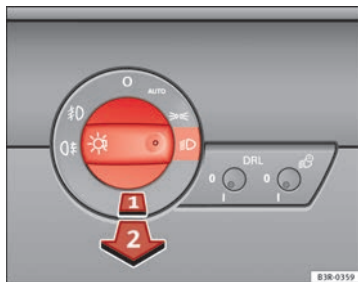

Fig. 84 Detailed view of the dash panel: Light switch
- Turn the light switch  $\Rightarrow$  fig. 84 to position  $\Rightarrow$ .
- Do  ⇒ fig. 84 **not** turn the light switch to the symbol .
- First turn the light switch  ⇒ fig. 84 to the position  or .